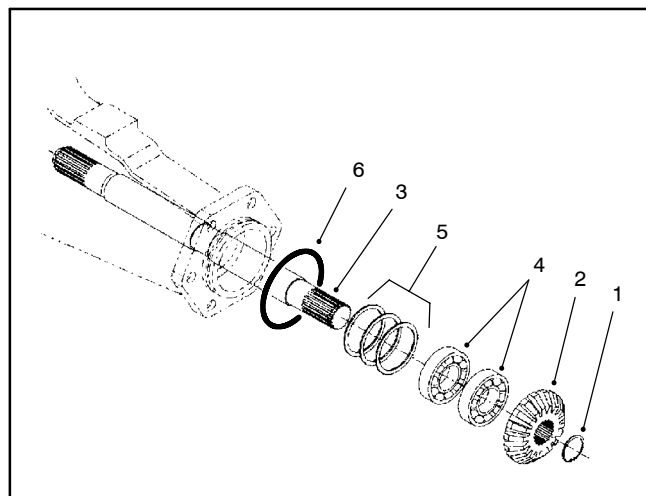

Figure 22
3. Remove the retaining ring and bevel gear (Fig 22).